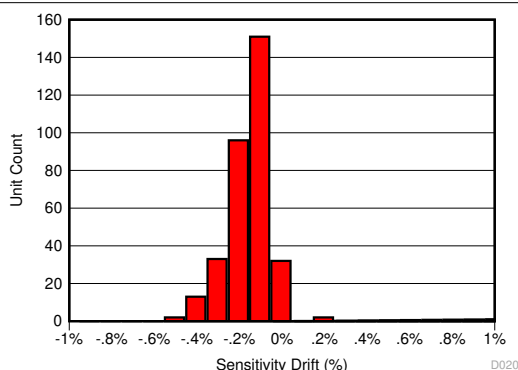
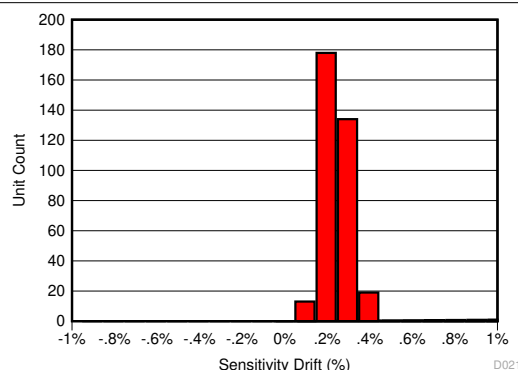
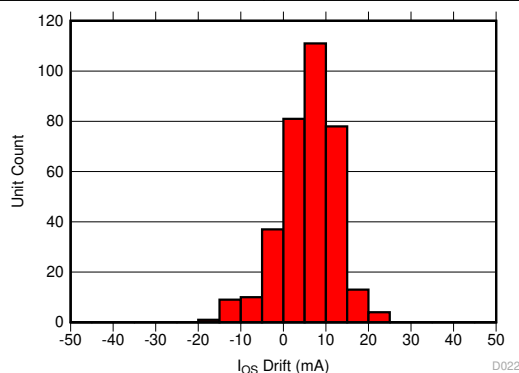

Figure 9-1. Sensitivity Error After 130°C, 85% RH HAST
Figure 9-2. Sensitivity Error Drift After AEC-Q100 High Temperature Operating Life Stress Test
Figure 9-3. Input-Referred Offset Drift After AEC-Q100 High Temperature Operating Life Stress Test
The same compensation techniques utilized in the TMCS1107 to reduce temperature drift also greatly reduce lifetime drift due to aging, stress, and environmental conditions. Typical magnetic sensors suffer from up to 2% to 3% of sensitivity drift due to aging at high operating temperatures. The TMCS1107 has greatly improved lifetime drift, as defined in the Electrical Characteristics table for total sensitivity error measured after the worst-case stress test during a three lot AEC-Q100 qualification. All other stress tests prescribed by an AEC-Q100 qualification caused lower than the specified sensitivity error, and were within the bounds specified within the Electrical Characteristics table. Figure 9-1 shows the total sensitivity error after the worst case stress test, a Highly Accelerated Stress Test (HAST) at 130°C and 85% relative humidity (RH), while Figure 9-2 and Figure 9-3 show the sensitivity and offset error drift after a 1000 hour, 125°C high temperature operating life stress test as specified by AEC-Q100. This test mimics typical device lifetime operation, and shows the likely device performance variation due to aging is vastly improved compared to typical magnetic sensors.